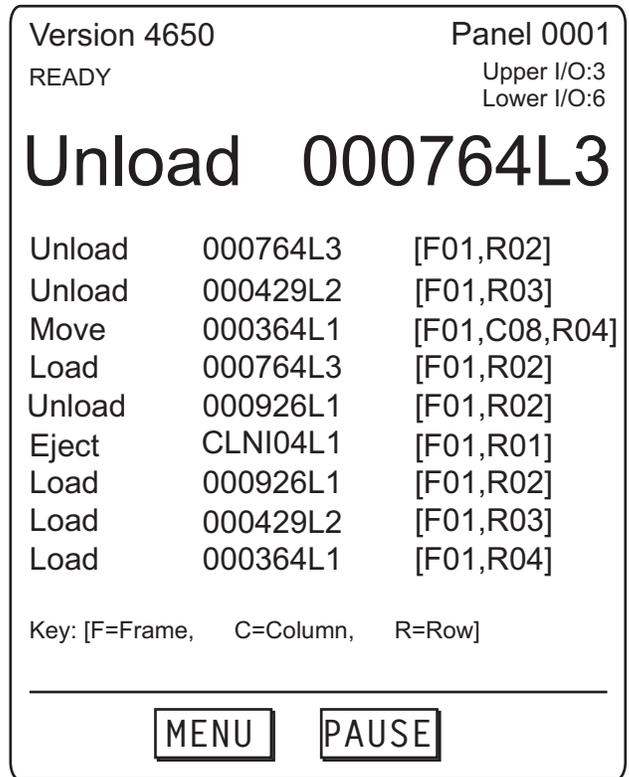

Figure 30. Activity screen on the front panel of the IBM TS3500. Use the screen to pause the library.
1. From the library's Activity screen (see Figure 30 on page 84), press the PAUSE key. The library displays the message: If you open the door the library will go Not Ready and any remaining jobs in the work queue may fail. Press ENTER to continue.